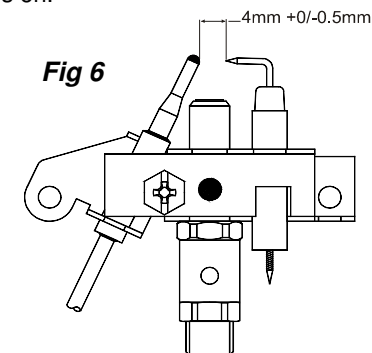

Fig 6
- Ignition System A piezo crystal in the gas control valve operates the ignition system. Depress the gas control knob and turn anti-clockwise rapidly (Two clicks will be heard). If the fire does not ignite after any air in the gas supply pipe has been purged check electrode setting – Dimension between the tip of the thermocouple and the tip of the electrode should be 4.0mm ^{-0/+0.5} (see fig 6).